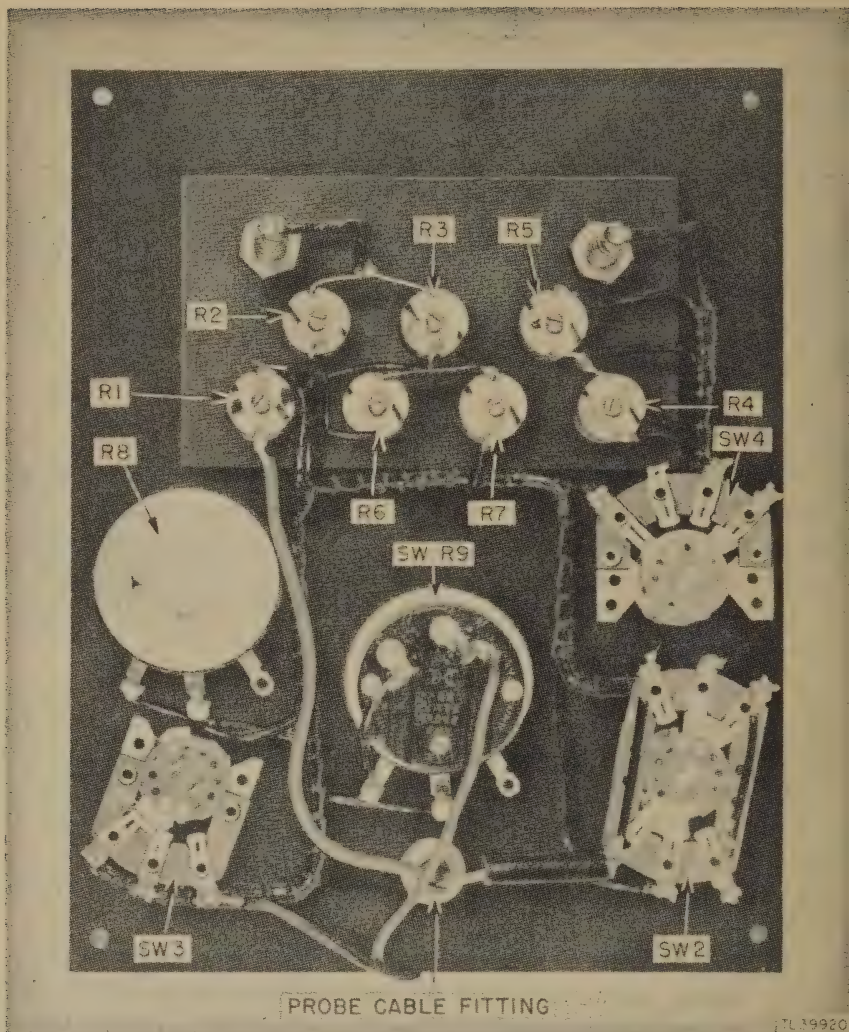

Figure 7. Fluxmeters TS-15A/AP and TS-15B/AP, bottom view of panel.
b. If the fluxmeter fails to operate, make an inspection of all wiring and connections (fig. 7). An analyzer may be used to check continuity. Before using the analyzer, disconnect the gauss meter and the probe meter from the circuit. *Do not attempt to measure the resistance of the meters or they will be damaged.*